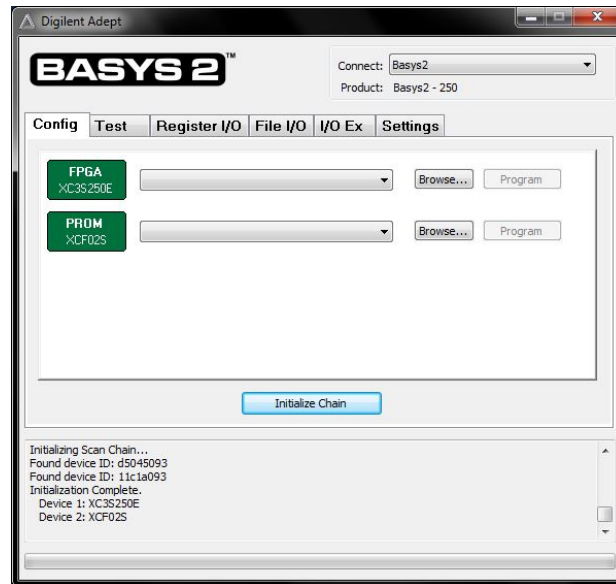

Figure A-4: Digilent Adept tool
2. Start the Adept Tool from Adept programming software: Start → Programs → Digilent → Adept (Figure A-4).